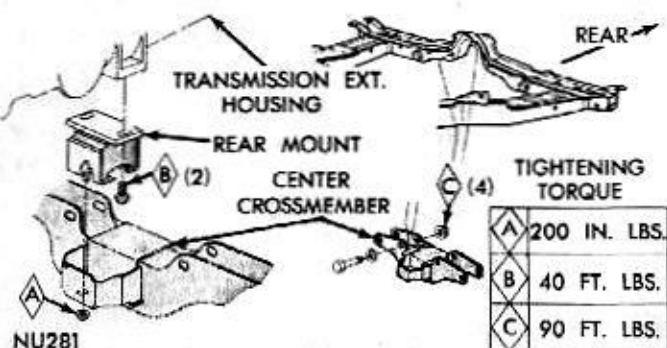

Fig. 4—Engine Rear Support
(3) Remove radiator and heater hoses and remove radiator.
(4) Remove closed ventilation system and evaporative control system (if so equipped) from cylinder head cover.
(5) Disconnect fuel lines, carburetor linkage and wiring to engine.
(6) Disconnect exhaust pipe at manifold.
(7) Raise vehicle on a hoist.
(8) Drain converter housing and transmission. Remove oil cooler lines, filler tube and shift cable.
(9) Remove clutch torque shaft, brake cables and rods.
(10) Remove speedometer cable and gear shift rods.
(11) Disconnect propeller shaft and tie-up out of way.
(12) Install engine support fixture Tool C-3487A to support rear of engine.
(13) Remove engine rear support crossmember (Fig. 4).
(14) Remove transmission bolts from clutch housing.
(15) Remove transmission.
(16) Lower vehicle.